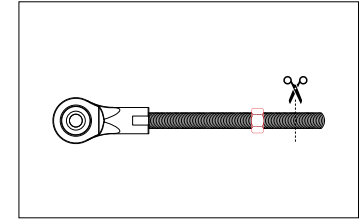

Fig. 29: Marking cutting point
4. If you do not have a die to deburr the threaded rod, screw a nut onto the threaded rod before cutting the rod. Use the nut to deburr the end of the rod (Fig. 29).